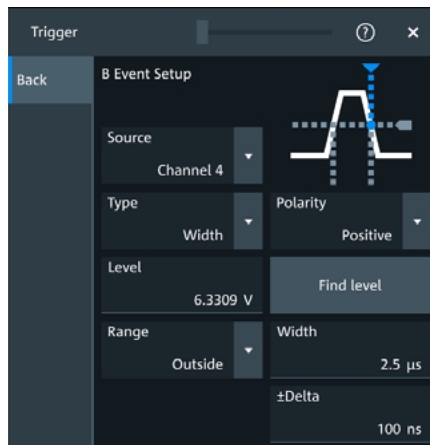

Figure 4: Trigger event B window
- Define trigger B as width type and set the width and delta time (see Figure 4)